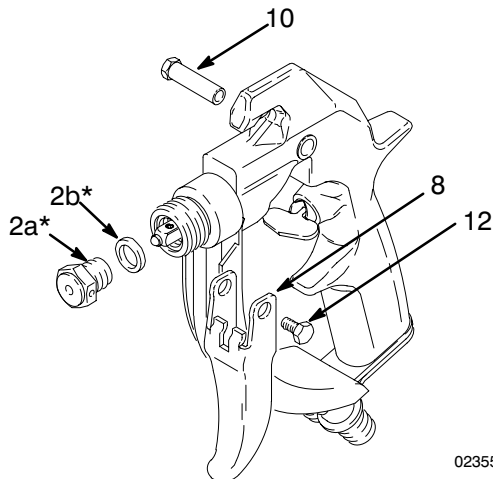

Fig. 5
3. Remove the diffuser/seat (2a\*) and gasket (2b\*). Remove the screw (12), pivot pin (10), and trigger (8). See Fig. 5.
9. Grease the diffuser/seat threads. Place the new gasket (2b\*) on the diffuser/seat (2a\*) and screw the assembly into the fluid housing (6). Torque to 20–25 ft-lb (27–34 N.m). See Fig. 5.
10. Install the trigger (8), pivot pin (10) and screw (12). See Fig. 5.